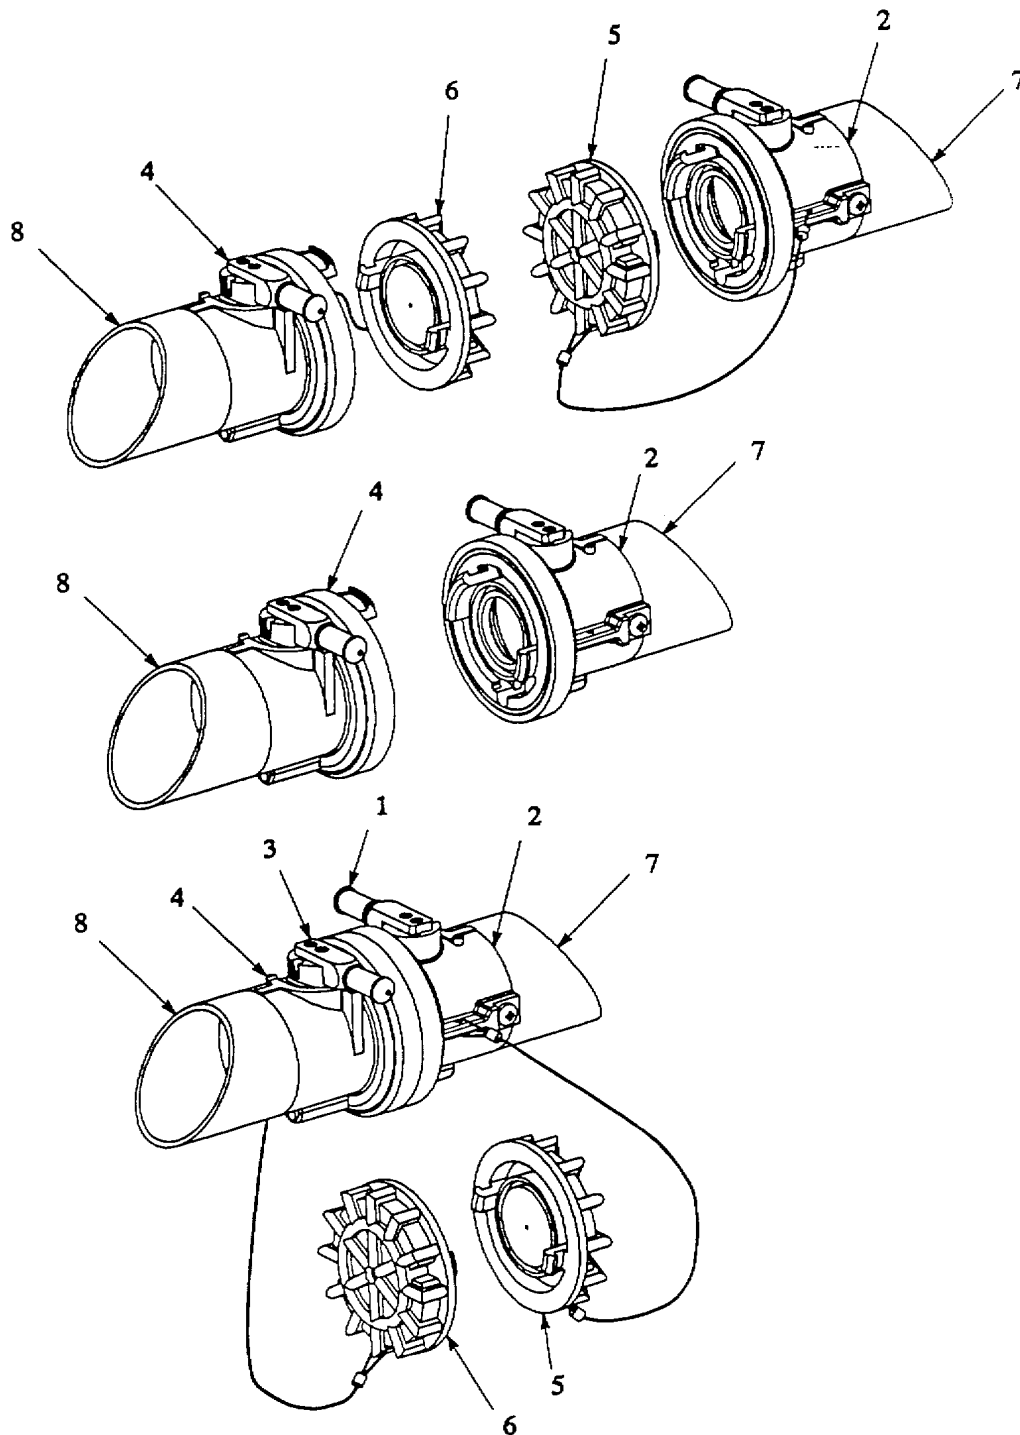

Figure 3-2. Component Installation.
b. Installation. Refer to figure 3-2.
- (1) Position replacement component (7) in fuel system (8).
- (2) Disconnect dust cap (6) from valved coupling (4).
- (3) Disconnect dust cap (5) from valved coupling (2).
- (4) Connect dust cap (5) to dust cap (6).
- (5) Connect valved coupling (3) to valved coupling (4).
- (6) Set control handle (3) on valved coupling (4) to OPEN.
- (7) Set control handle (1) on valved coupling (2) to OPEN.
- (8) Repeat steps (2) through (7) for other end of replacement component (7).
- (9) Startup fuel system (para 2-12f) and check for leaks at replaced component (8).